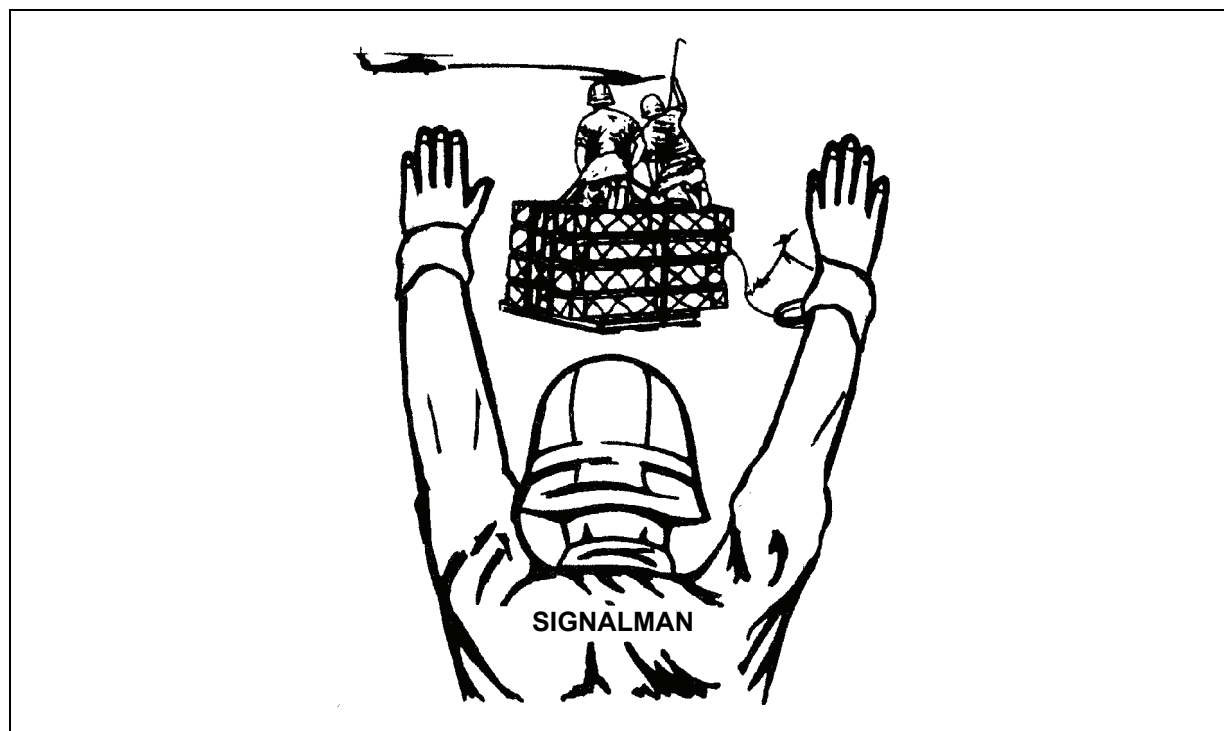

Figure 5-2. Ground Crew Initial Position
- **Positioning Personnel (ARMY).** As the helicopter approaches the landing site, the ground crew personnel put on their equipment and take up their positions. The signalman positions himself upwind of the load, facing the load and the aircraft (Figure 5-2).